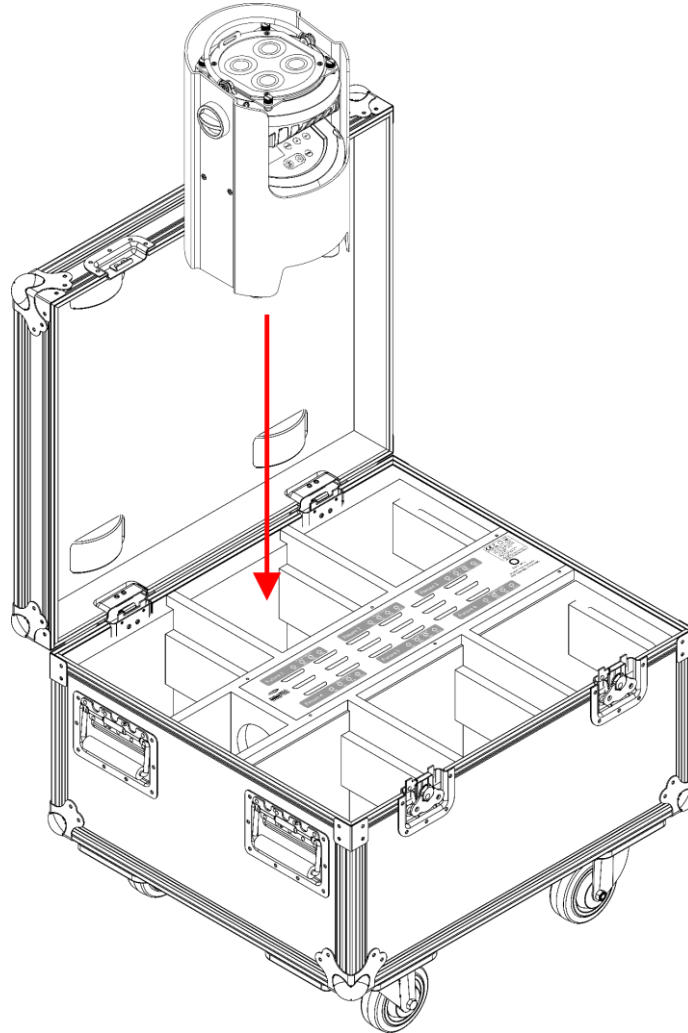

Fig. 06
- 02) Place the EventSpots in the charging case, on the 6 charging spots. Make sure that the battery charger sockets **(08)** on the EventSpots are placed correctly in the chargers (Fig. 06).